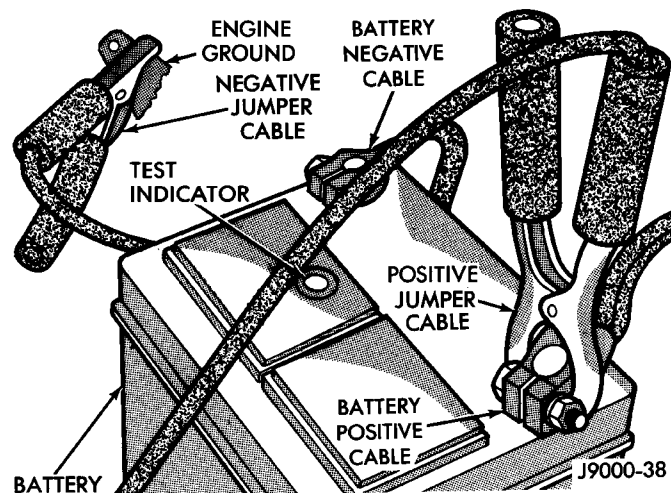

Fig. 1 Jumper Cable Clamp Connections
(3) On disabled vehicle, place gear selector in park or neutral and set park brake. Turn off all accessories.
(4) Connect jumper cables to booster battery. RED clamp to positive terminal (+). BLACK clamp to negative terminal (-). DO NOT allow clamps at opposite end of cables to touch, electrical arc will result. Review all warnings in this procedure.
(5) On disabled vehicle, connect RED jumper cable clamp to positive (+) terminal. Connect BLACK jumper cable clamp to engine ground as close to the ground cable attaching point as possible (Fig. 1).
(6) Start the engine in the vehicle which has the booster battery, let the engine idle a few minutes, then start the engine in the vehicle with the discharged battery.